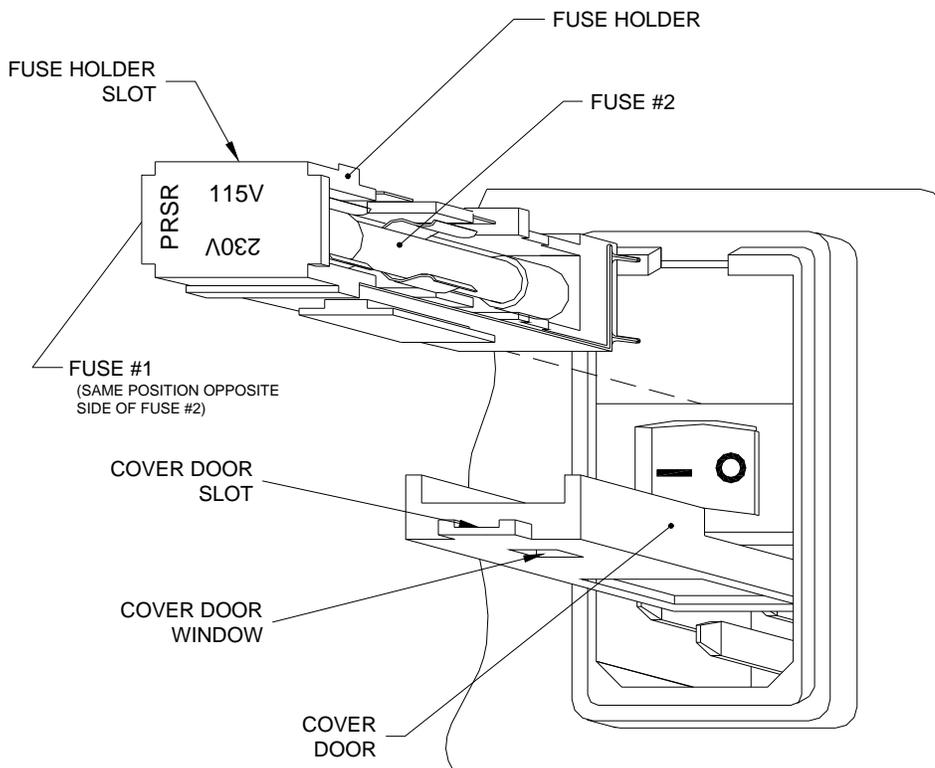

Figure 2: AC Input Module
1. Have handy a small flat-bladed screwdriver or similar tool and refer to Figure 2.
1. Repeat steps 1-5 in "Line Fuse Replacement" instructions and refer to Figure 2.